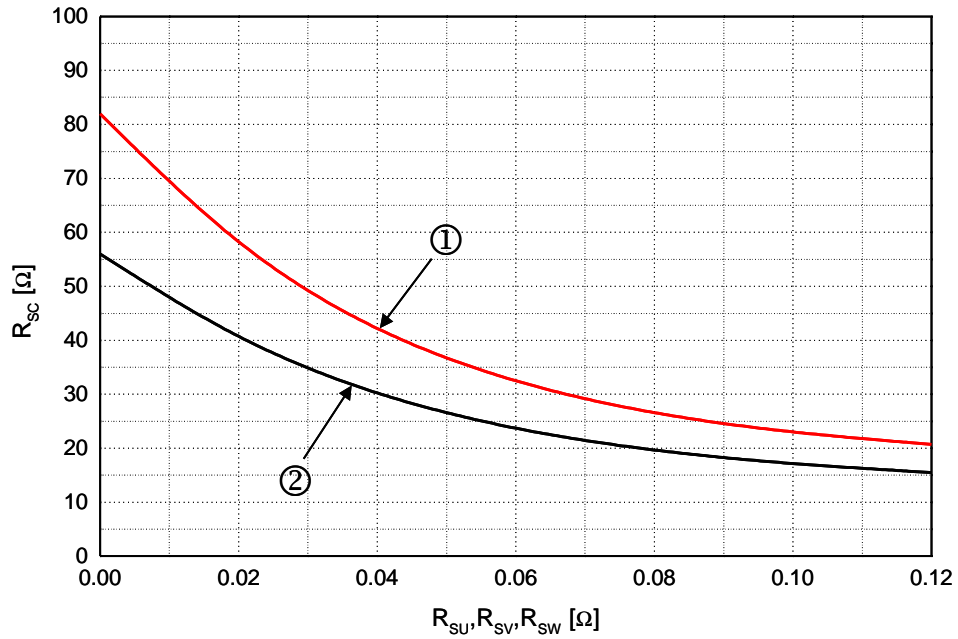

Fig. 8. R_{SC} Variation by change of Shunt Resistors (R_{SU}, R_{SV}, R_{SW}) for Short-Circuit Protection
- Short-circuit current protection is functioning only at the low-sides. It would be recommended that the value of the external sensing resistor (R_{SC}) should be selected around 56 Ω in order to make the SC trip-level of about 22A at the shunt resistors (R_{SU}, R_{SV}, R_{SW}) of 0 Ω . For the detailed information about the relationship between the external sensing resistor (R_{SC}) and the shunt resistors (R_{SU}, R_{SV}, R_{SW}), please see Fig. 8.
9. For the use of shunt resistors (R_{SU} , R_{SV} , R_{SW}), please see Fig. 8 in order to select the proper R_{SC} .